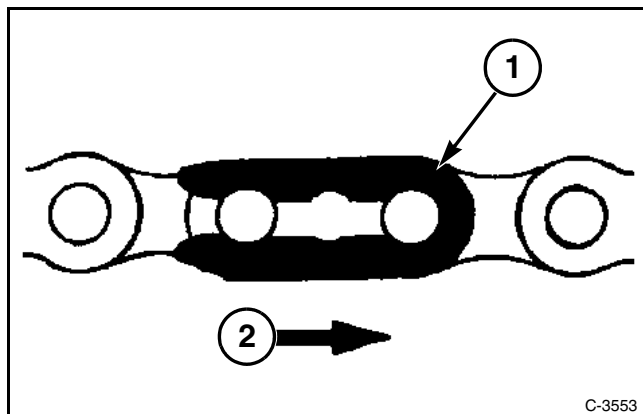

FIG. 24
FIG. 24: When using spring clip connectors (1), always install the spring clip with the open end of the clip trailing the direction of chain travel (2) to prevent removal or loss of the spring clip by accident.